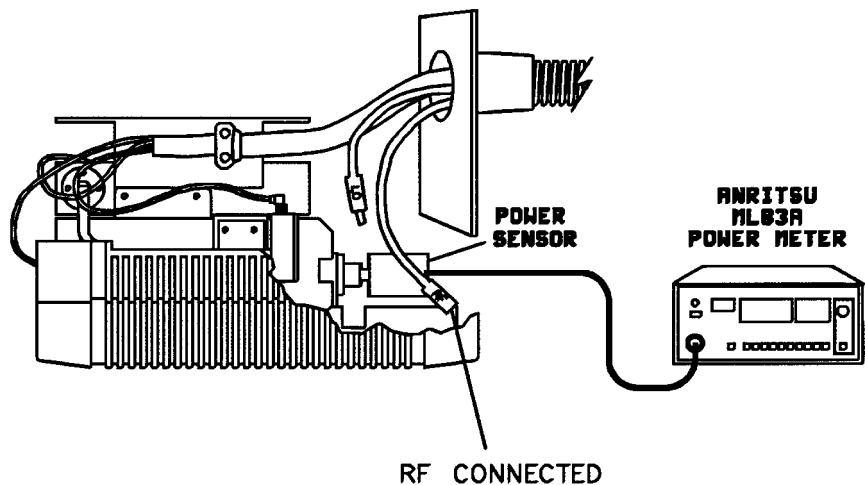

Figure 5-6 Power Level Test Setup
5. Connect the power sensor to A13 module assembly output as shown in Figure 5-6 on page 5-18.